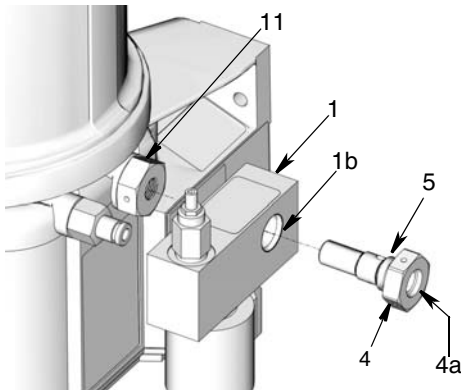

FIG. 11
- Be sure o-ring (5) is installed on the banjo bolt (4) as shown in FIG. 11.
- Install banjo bolt (4) through hole (1b) in block (1) and into pump. Tighten banjo bolt securely (FIG. 11). Torque to 35 ft.-lbs. (47.45 N•m).